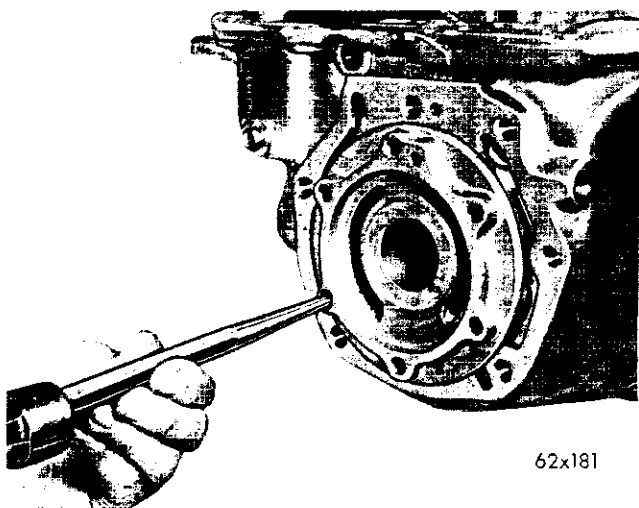

Fig. 73—Removing Overrunning Clutch Cam
(1) Remove the set screw from the case below the clutch cam.
(2) Insert a punch through the pump body bolt holes and drive the cam from the case (Fig. 73). Alternate the punch from one bolt hole to another so the cam will be driven evenly from the case.
(3) Clean all burrs and chips from the cam area in the case.
(4) Place the spring retainer on the cam, making sure the retainer lugs snap firmly into the notches on the cam.